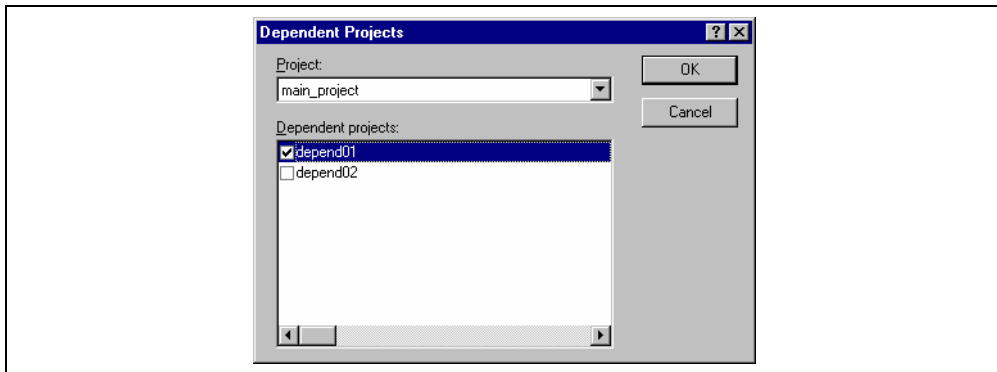

Figure 2.24 Dependent Projects dialog
1. Select **[Project->Dependent Projects]**. The “Dependent Projects” dialog will be displayed.(figure 2.24)